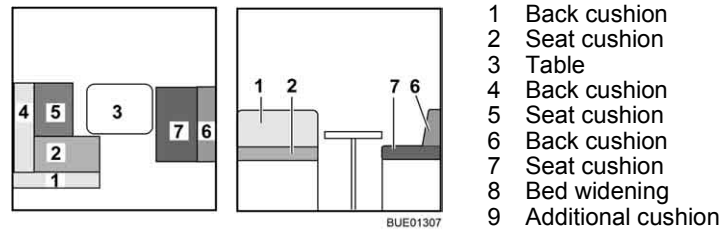

Fig. 144 Prior to conversion
- Convert the table (Fig. 144,3) to a bed foundation (see section 6.11).
- Remove the back cushion (Fig. 144,1) and lay it aside.